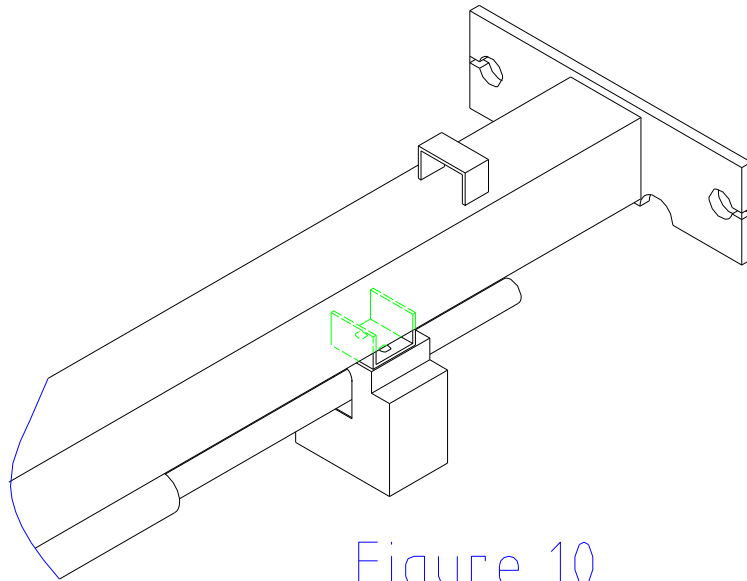

Figure 10
Using (2) $\frac{1}{4}$ -20 X $\frac{1}{2}$ HHCS and (2) $\frac{1}{4}$ -20 Flange Lock Nuts attach the overhead switch assembly to the overhead beam as shown in figure 10.